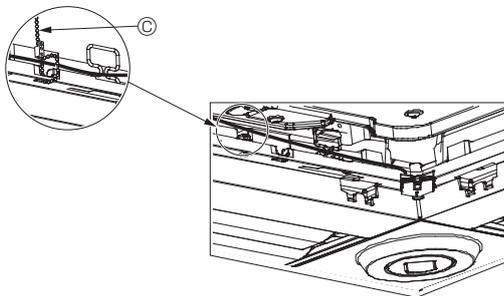

Fig. 10-12
- Secure the i-See sensor and signal receiver wires to the panel with the fastener as shown in the diagram so that there is no slack in the wires, and then cut off the excess end of the fastener. (Fig.10-12)
- If the position of the i-See sensor was changed from the "o" position (E) to the "□" position (F), change the function settings. (Refer to page 14.)